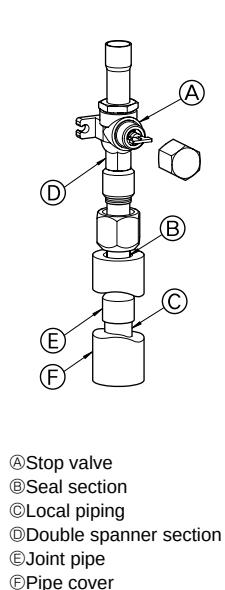

Fig. 4-3
- Use the following procedure for connecting the gas-side piping. (Fig. 4-3)